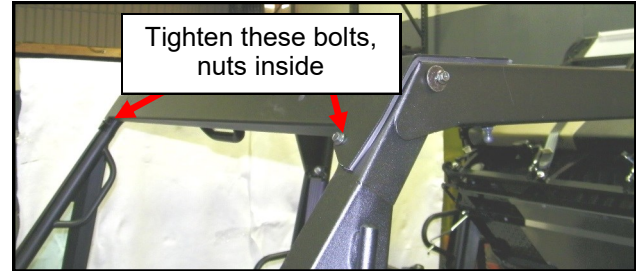

Fig. 9.1 (Windshield support)
**9.1** Per figure 9.1, place the windshield support on top of the headers and A-pillars. Attach the windshield support to each A-pillar with a 1/4-20 bolt and nut. Tighten these bolts.